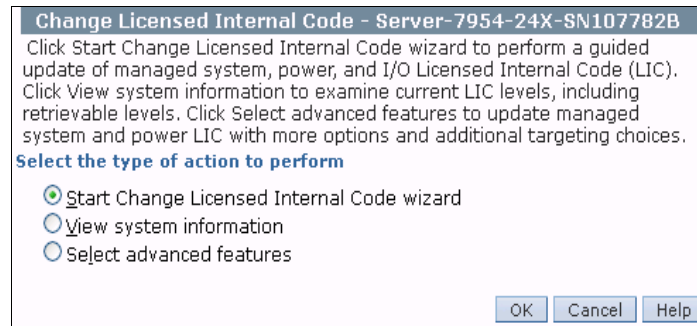

Figure 7-119 Change Licensed Internal Code window
From the Change Licensed Internal Code window that is shown in Figure 7-119, you can start the update wizard, view current system firmware information, or select advanced features, such as, selecting the flash side to use (temporary or permanent), and reject fix.
3. Select **Start Change Licensed Internal Code wizard** and click **OK** to open the Specify LIC Repository window, as shown in Figure 7-119.